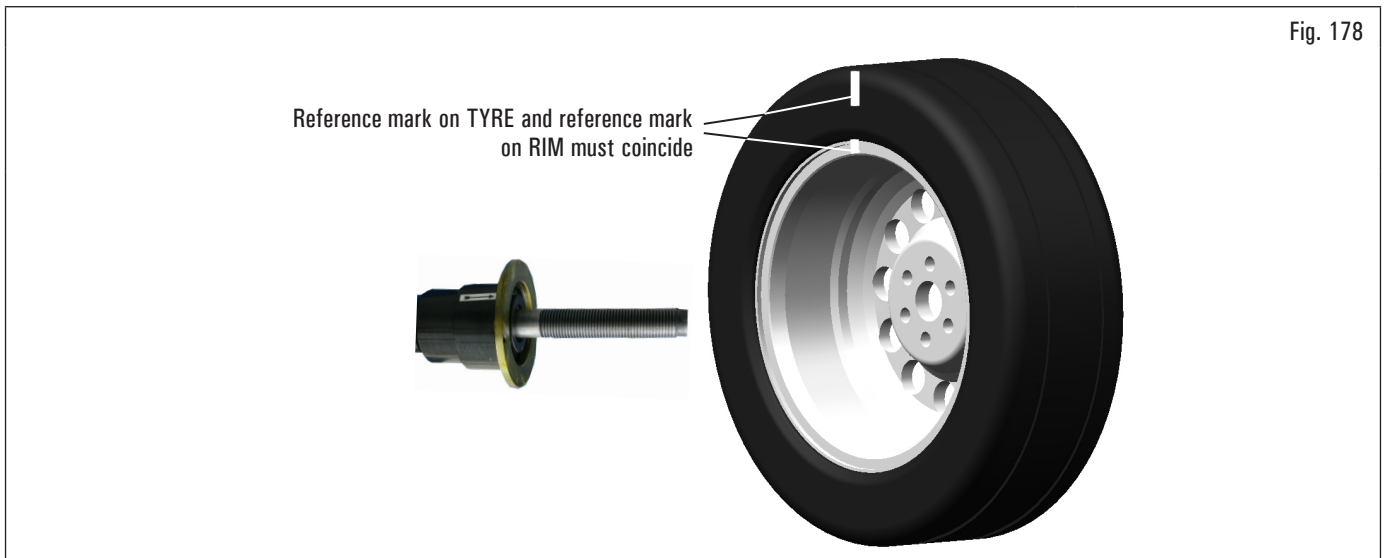

Fig. 178
STEP 4. Remove the wheel from the wheel balancer. Demount and mount the tyre again on the rim so as to bring the two reference marks (rim and tyre) to coincide. Refit the wheel on the balancer (see Fig. 178) with the two reference marks next to the arrow on the flange.